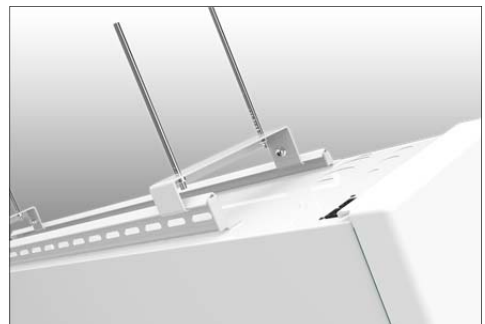

Fig 7
Step 4 Hook each ceiling bracket into top rear and front hanging system rails as shown in Fig7.